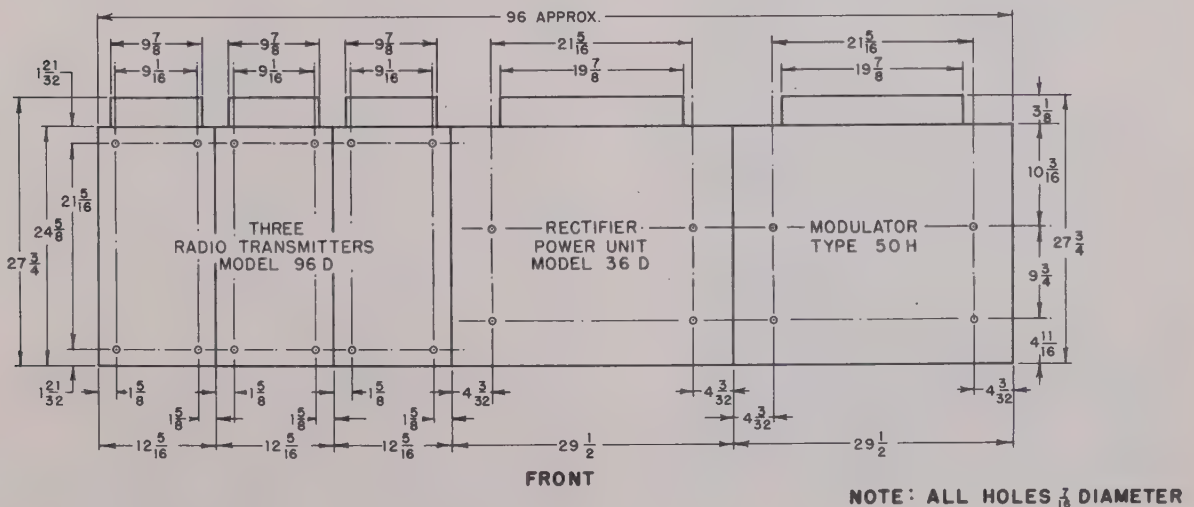

Figure 19. Mounting and drilling dimensions for an installation consisting of three transmitters, one rectifier, and one modulator
a. General. Figure 19 gives the mounting and drilling dimensions for three transmitters, one rectifier, and one modulator. These dimensions may be readily extended to cover any number of units. The bolt holes for wood flooring or expansion bolts for concrete should be drilled before the cabinets are moved into place. If steel flooring is used, the holes should be drilled and tapped for 1/4"-20 machine screws.